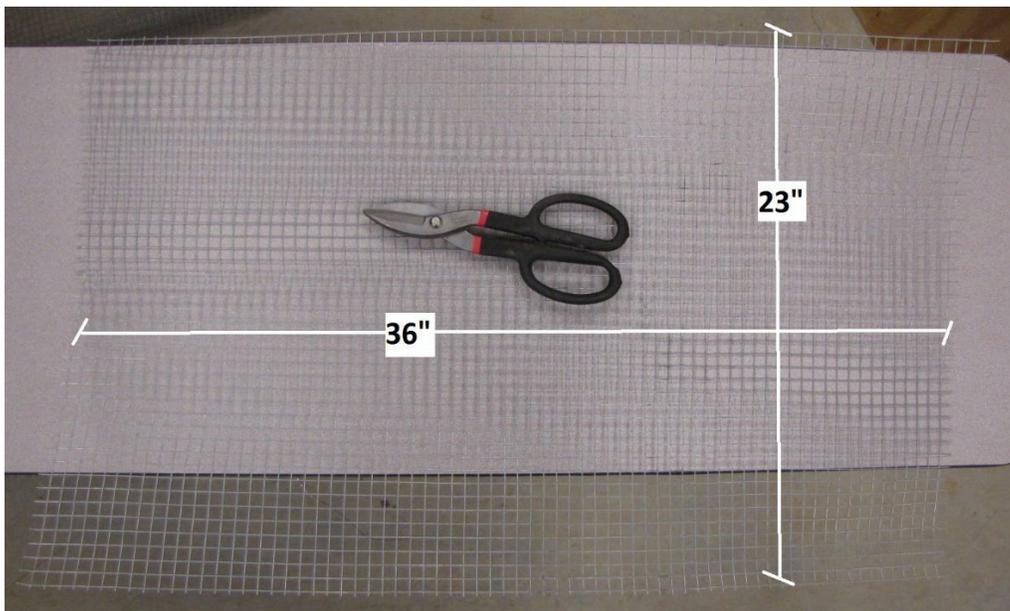

Figure 1-27
- a. Cut a piece of hardware cloth 36" X 23" (Figure 1-27).